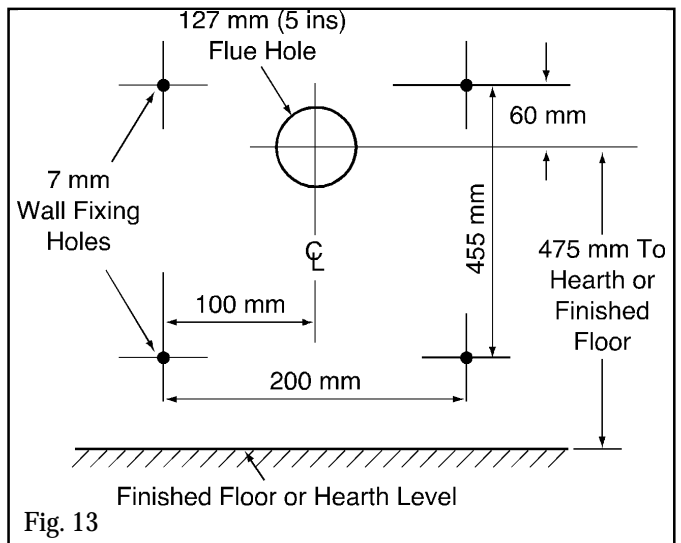

Fig. 13
Before cutting the hole in the wall make sure that the height to the top surface of the finished floor is known. The height from this surface to the flue hole centre is shown in figure 13.
Make sure that the centre of the flue hole is as shown in figure 13.
- Working from the centre of the flue hole, mark up four holes as shown in figure 13.